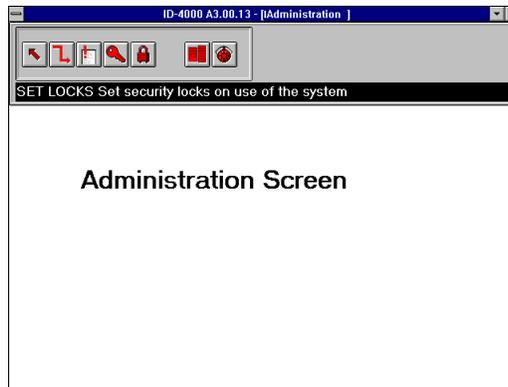

Figure 4-20. System Management Window
3. Choose the System Management button to display the System Management window (Figure 4-20).